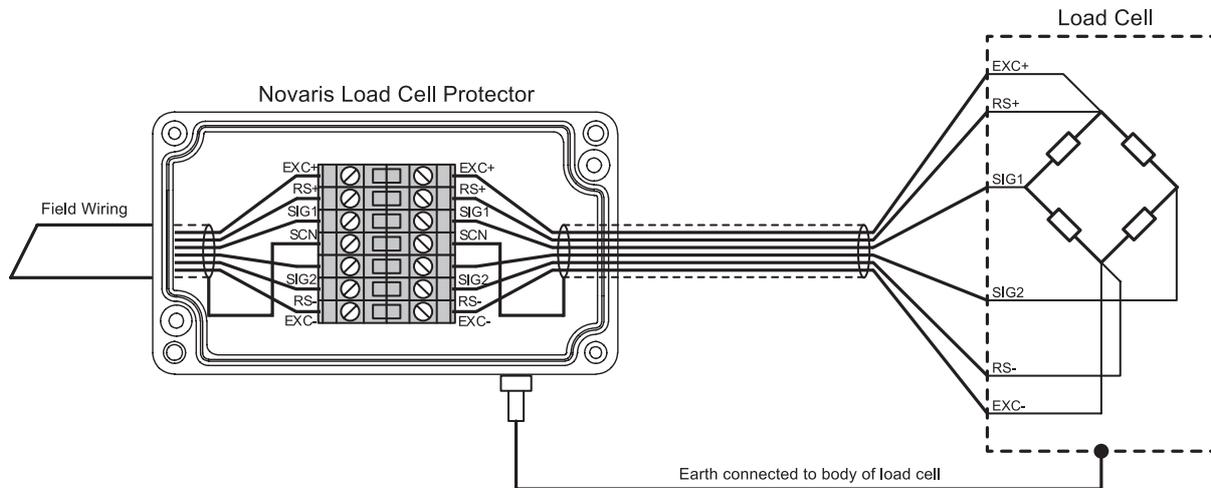

Figure 3. Installation of Load Cell Protector
- 3.5 **Wiring:** Load cell protectors are connected in series with the equipment (Figure 3). The load cell or measuring equipment to be protected is connected to the load cell (equipment) side of the load cell protector. The field wiring is connected to the instrument (line) side of the load cell protector.